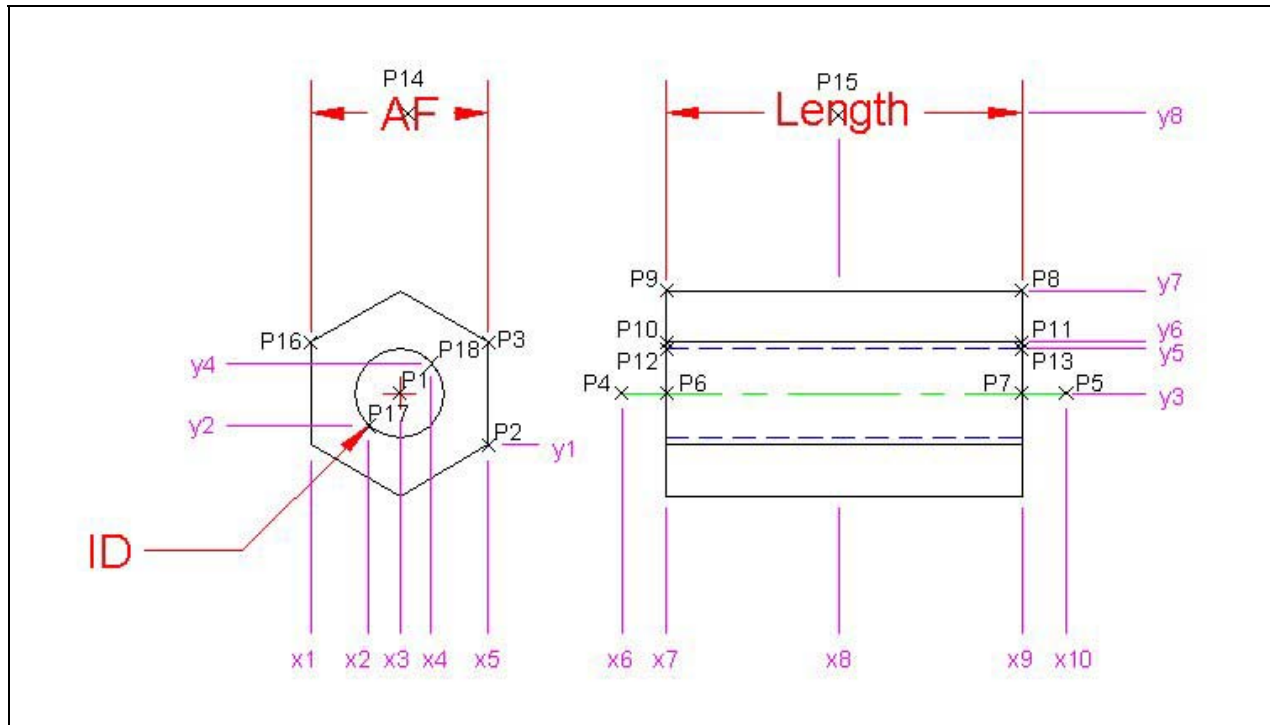

Figure 9.25 – Identifying the Variables for the Standoff Program
In Figure 9.25, we have a drawing that shows an X and Y grid for each point we need to draw. In this program, we only need points 1 through 13. To create the points, we have made a grid with the values of x1 through x6 horizontally on the bottom and y1 through y5 vertically on the left. In the program, we will define point P1 as coordinate (x1, y1, z1), point P2 as (x2, y5, z1)
The vertices or points are declared as double integers (As Double) with an array of zero to two (0 to 2). The vertex P1(0) represents the X coordinate, the P1(1) represents the Y coordinate and P1(2) represents the Z coordinate. Some may think that it is a waste of time to involve the Z-axis in a two dimension drawing, but we will incorporate the Z coordinate for designers that work in all three dimensions. For everyone else, we will just enter zero (0) in the Z coordinate textbox. We will declare points P1 through P18 for the vertices in the drawing in Figure 9.25.